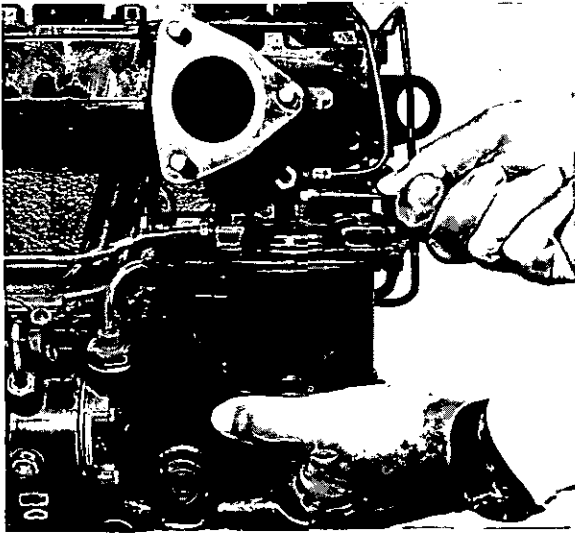

Fig. L.1
1. Unscrew setscrew in centre of top filter cover (Fig. L.1).